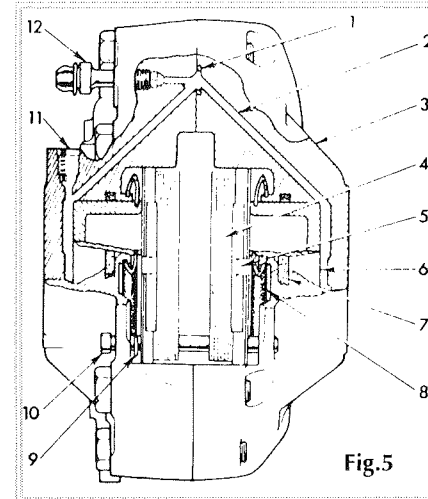

Fig. 5
discs as soon as practicable. Referring to Figure 5, examine the thickness of the pads (4). This is the distance between the disc surface and the metal backing plate of the pad. Replace if any one of them is below 1/8 inch (3 mm) because they won't last until the next service. All pads should be replaced as a full set of 4. Also check the physical condition of the caliper, looking for fluid leaks in particular, and the flexible brake hoses for deterioration or leaks. Any faults must be dealt with quickly.